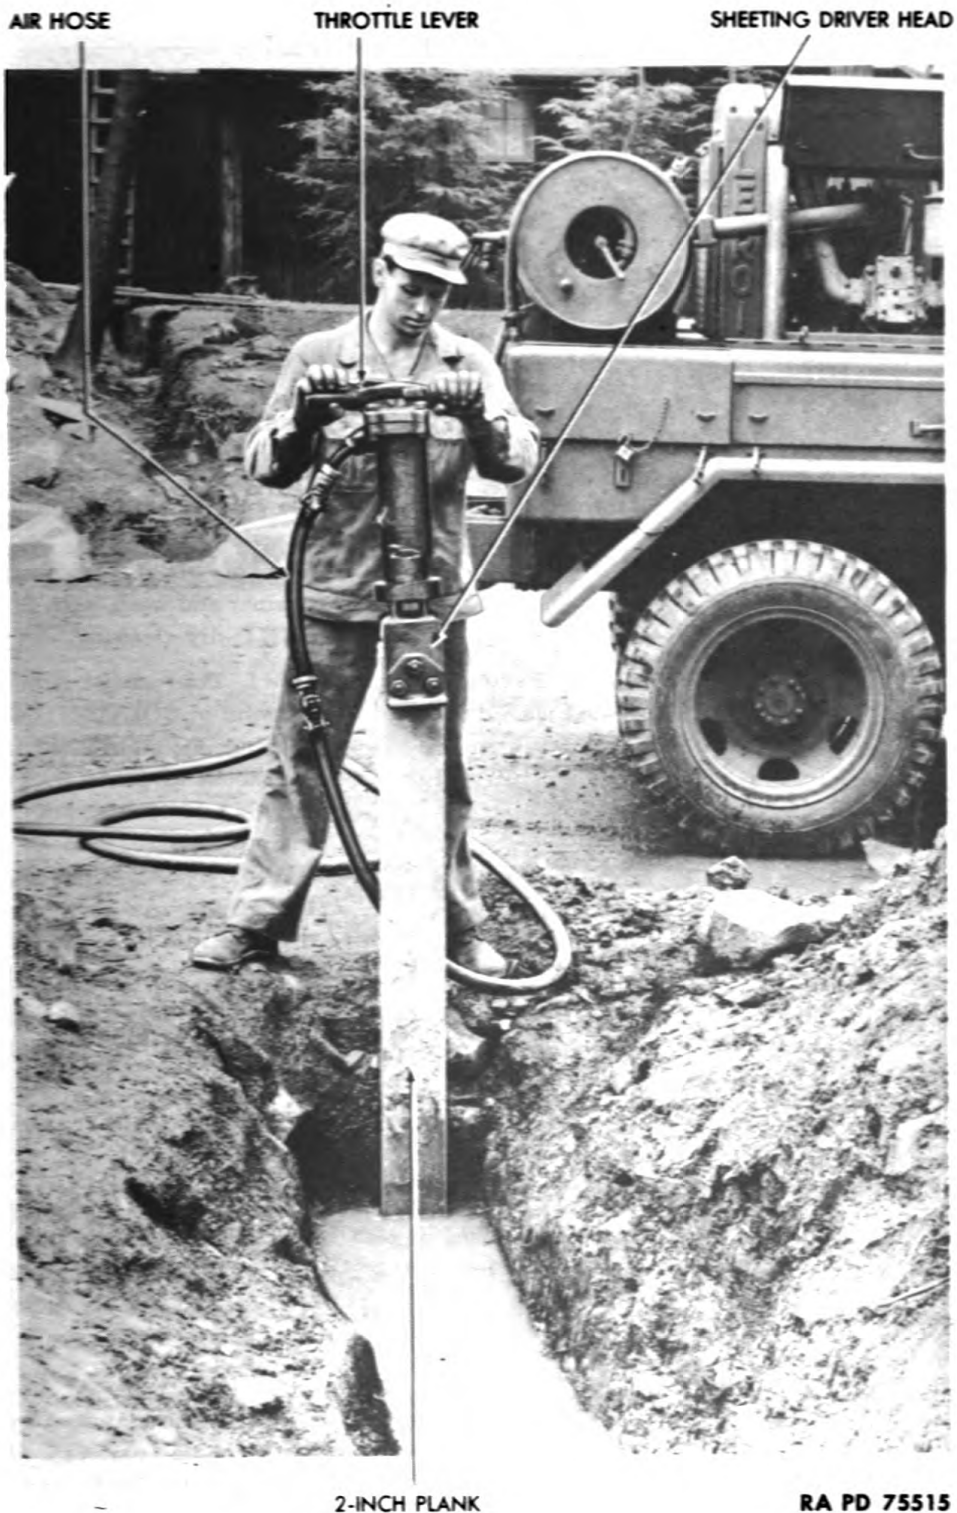

Figure 69 — Driving Sheet piling With Pneumatic Paving Breaker
b. Use as a Sheeting Driver (fig. 69).